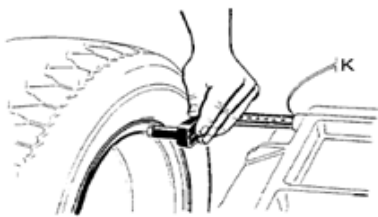

Fig.1
- set “a” value: move the gauge to measure position as illustrated as **Fig.1**, hold the gauge still in position for approx. 4 seconds, successful memorization is given, then return the gauge to position 0. (The value measured in automatic mode appear on the display). Or press **a+** and **a-** to set manually.